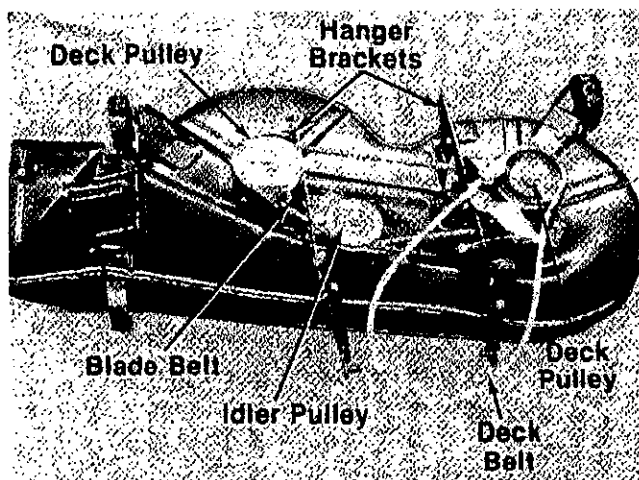

FIGURE 37.
4. Push the idler pulley inward towards the center of deck and slip the blade belt off of idler pulley. See figure 37.
6. Slide the blade belt off of the deck pulleys and slip underneath the hanger brackets. See figure 37.